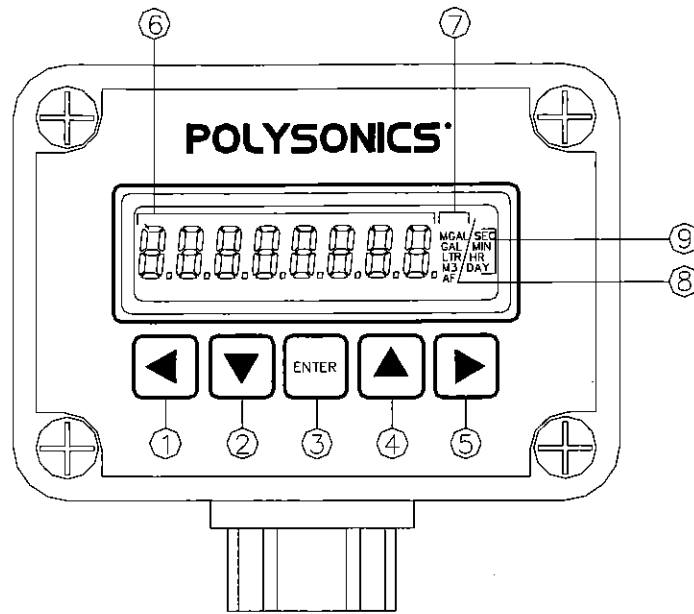

Figure 3-1 Keypad and Display
To make a numeric entry (Figure 3-1):
The letter t (for “totalizer”) is displayed on the left of the display. The totalizer volumetric unit that is currently programmed is displayed on the right in the volumetric unit indicator section of the display ⑦ (Figure 3-1).
The letter F (for flow rate) is displayed on the left of the display. The volumetric unit for the flow rate that is currently programmed into the flow monitor is displayed in the volumetric unit indicator section of the display ⑦ (Figure 3-1).
The letter F (for flow rate) is still displayed on the left of the display. The flow rate time unit that is currently programmed into the flow monitor is displayed in the flow rate time indicator section of the display ⑧ (Figure 3-1).